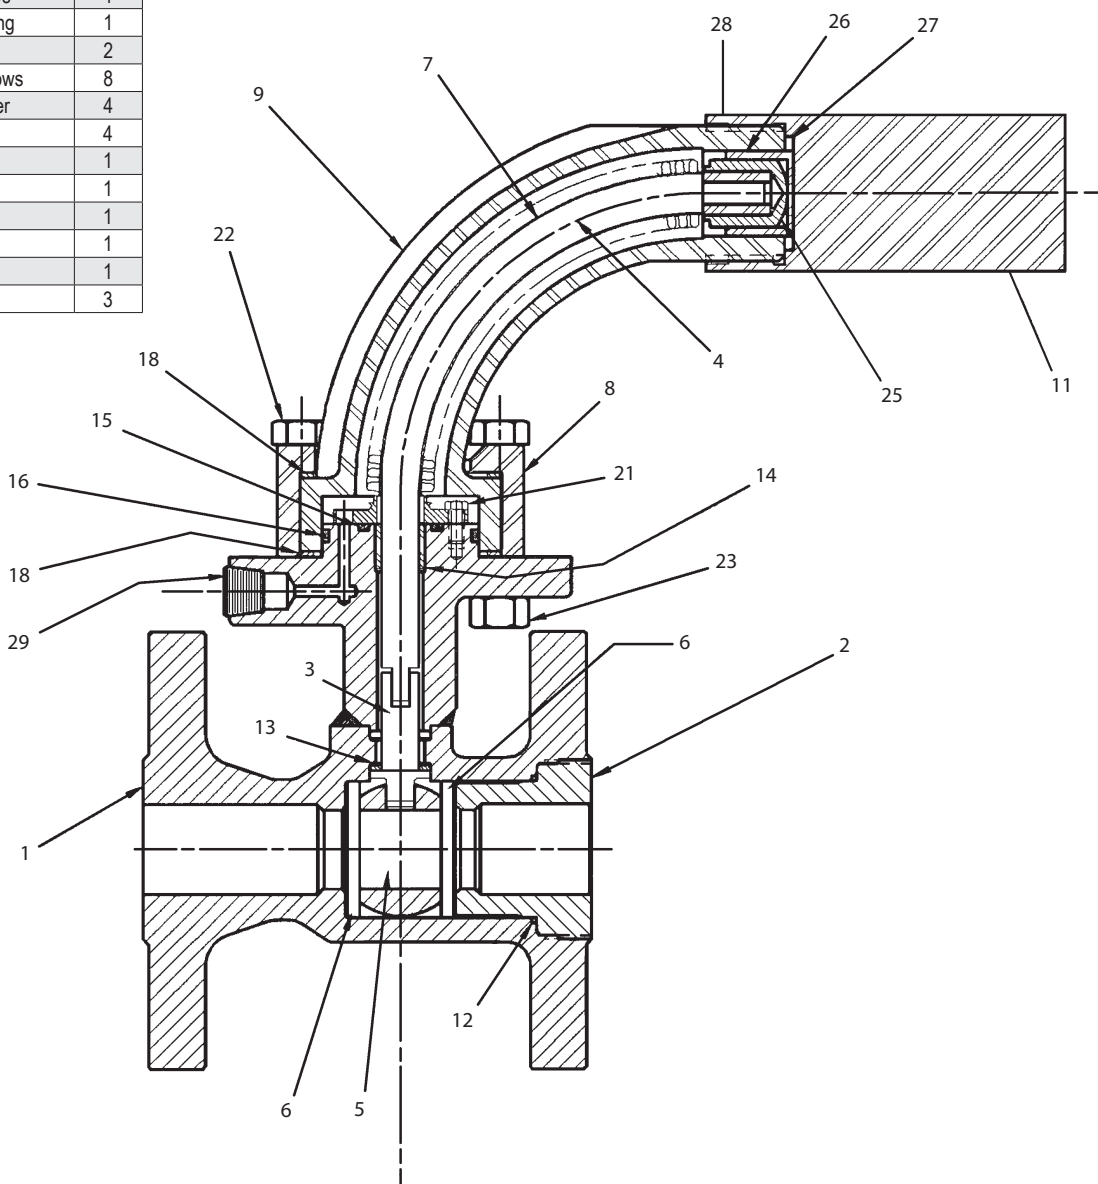

Figure 3.
- From Figure 3, the ballooned part number, part name and quantity required.